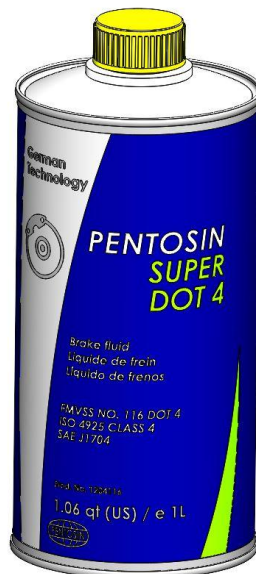

Figure 8 – Pentosin Super DOT 4
13. If the master cylinder has been removed or replaced, make sure it is properly bench bled and then installed on the vehicle. Then the remaining brake system can be bled to remove all of the air from the system. **REMEMBER:** Master Power Brakes requires the use of either DOT 3 or DOT 4 brake fluid. We Recommend the use of Pentosin Super Dot 4 fluid as seen below in Figure 8 (**Available at Master Power Brakes P/N: ACJ1703**).